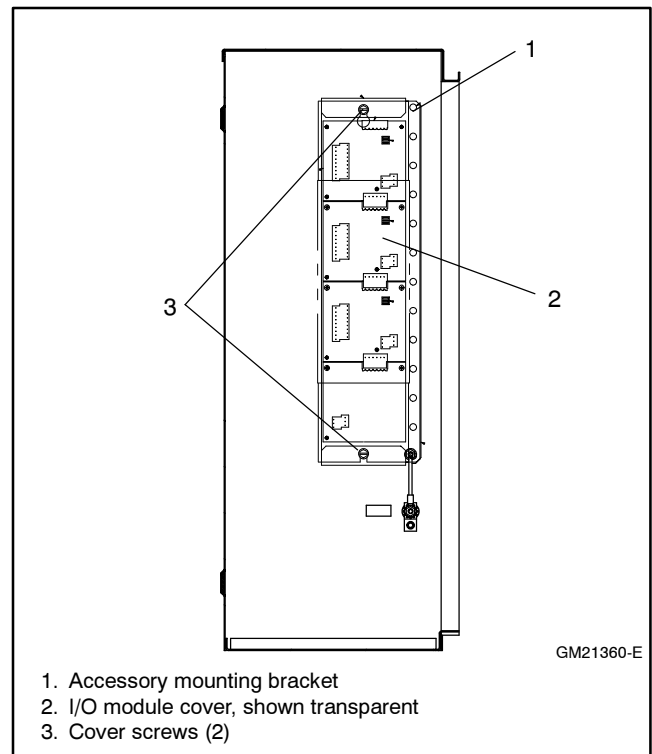

Figure 6-24 Installing I/O Module Cover
2. Install the I/O module cover using the two 1/4-20 cover screws. See Figure 6-24.